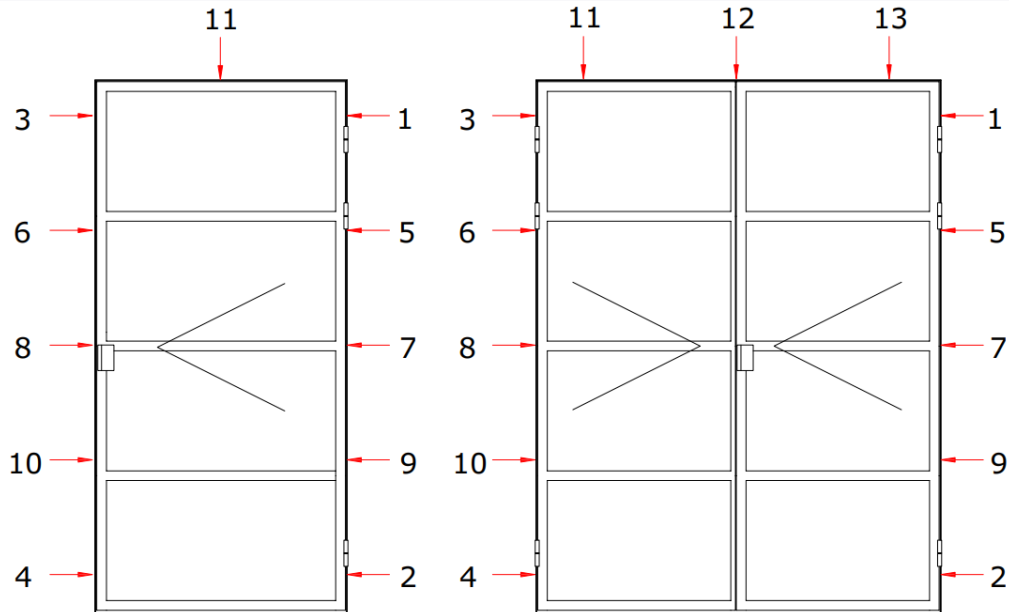

Figure 2 Sequence of fixing points for doors
5. Level the hinge side of the frame and drill the first fixing point through frame. Correct sequence of the fixing points is shown in the figure 2. Make sure that the gaps between the frame and wall are equal when tightening the screws. Place support blocks in the gap against screw, to support every fixing point, then tighten the screws. Check vertical position of the frame side surface. If necessary, loosen the screw and correct position of the frame.
7. Fix the frame with remaining fixing points (Figure 2). Support blocks must be added next to every fixing point. Tighten the screws.